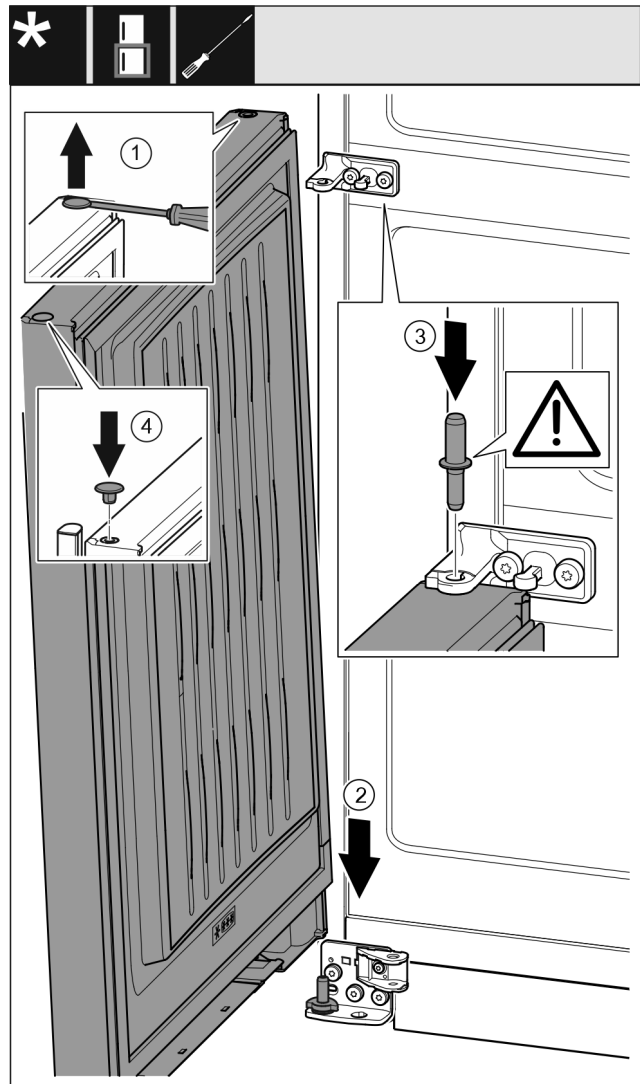

Fig. 41
- ▶ Carefully lift up the plugs with a slotted screwdriver and pull them out. Fig. 41 (1)
- ▶ Position the door from above onto the lower bearing pins. Fig. 41 (2)
- ▶ Insert the center bearing pin through the center bearing bracket into the bottom door. Make sure that the latching lug is pointing to the rear. Fig. 41 (3)
- ▶ Insert the plugs again on the other side of the door. Fig. 41 (4)